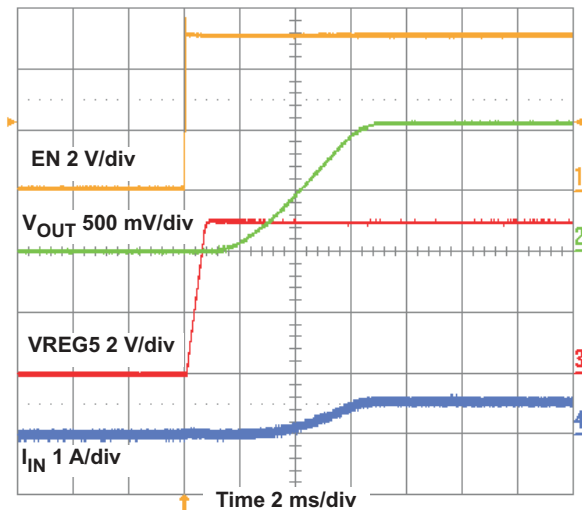
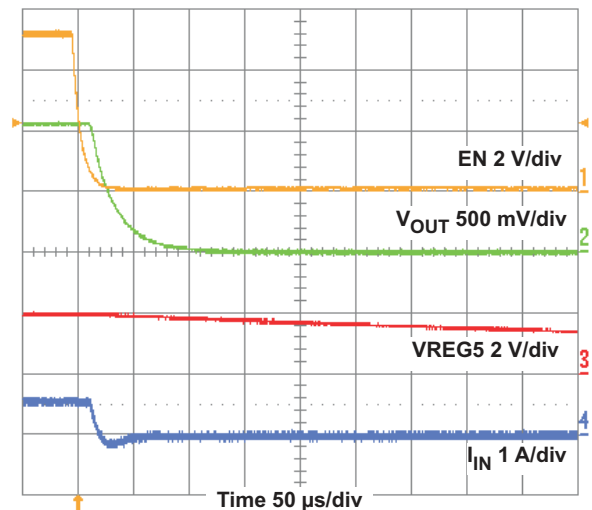

Figure 4-14. TPS54428EVM-052 Start-Up Relative to EN
Figure 4-15. TPS54428EVM-052 Shut-down Relative to EN
The TPS54428EVM-052 start-up and shut-down waveforms relative to enable (EN) with no load are shown in Figure 4-14 and Figure 4-15.